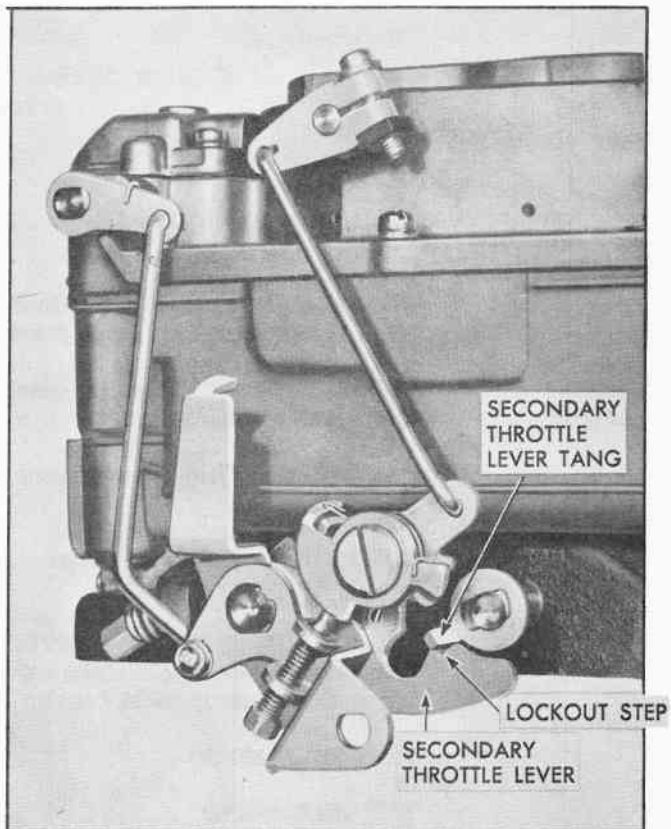

Fig. 31 Lockout Adjustment
3. Allow choke valve to close slowly. Lockout step on secondary lockout lever should freely engage tang on secondary throttle lever (Fig. 31). If adjustment is necessary, bend tang (Fig. 31).